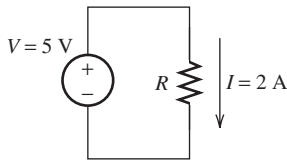

FIGURE P2.39 Circuit for Problem 2.39.
2.39 (B) Find R in the circuit shown in Figure P2.39.